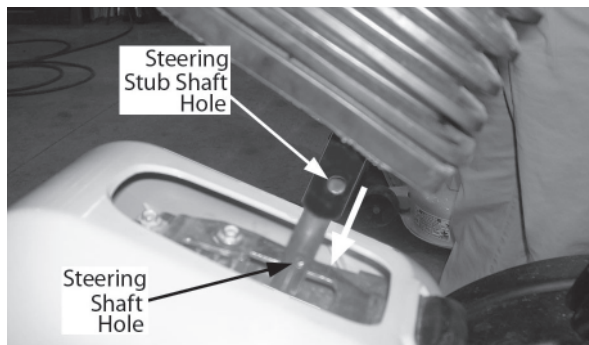

Figure 3-2
- Approximately align the holes in steering stub shaft with the holes at the top of the lower steering shaft, then slide the tube of the steering wheel assembly onto the lower steering shaft. See Figure 3-2.
- Align the holes in the steering stub shaft with the holes in the lower steering shaft. Refer to Figure 3-2.